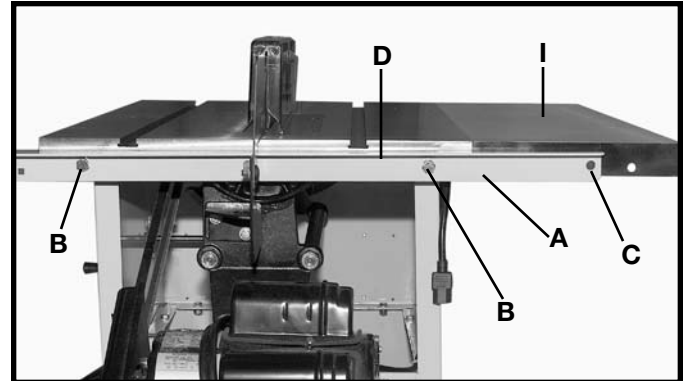
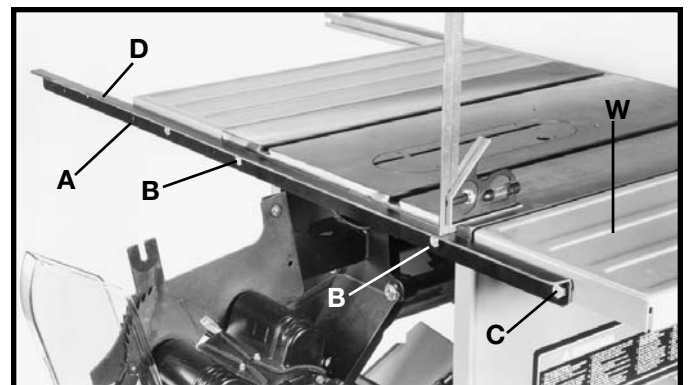

Fig. 10
Fig. 10A
6. Fasten the rear table support (A) Fig. 10, to the saw table. Insert a 3/8-24x5/8" hex head screw (B), through hole in rear support and thread screw into tapped hole in table. Repeat this process for the remaining hole. Tighten screws securely. **NOTE: FLAT EDGE (D) Fig. 10 AND FIG. 10A, OF REAR TABLE SUPPORT WILL FACE UPWARD.**
6. Fasten the rear table support (A) Fig. 10, to the saw table. Insert a 3/8-16x1" hex head screw (B), through hole in rear support and table, place a 3/8 washer onto the screw and thread a 3/8-16 hex nut onto screw and tighten securely. Repeat this process for the remaining hole. **NOTE: FLAT EDGE (D) Fig. 10 AND FIG. 10A, OF REAR TABLE SUPPORT WILL FACE UPWARD.**
7. If your saw is equipped with a cast iron wing as shown at (I) Fig. 10, which has a smooth surface, hole (C) Fig. 10 is not used, proceed to **step 8**. If your saw has a sheet metal wing as shown at (W) Fig. 10A, with a ribbed surface, the rear table support will be fastened through hole (C) Fig. 10A as follows. Insert a 3/8-16x1" hex head screw through hole (C) and the sheet metal extension wing, place a 3/8" washer on the screw, thread a 3/8-16 hex nut on screw, and tighten securely.